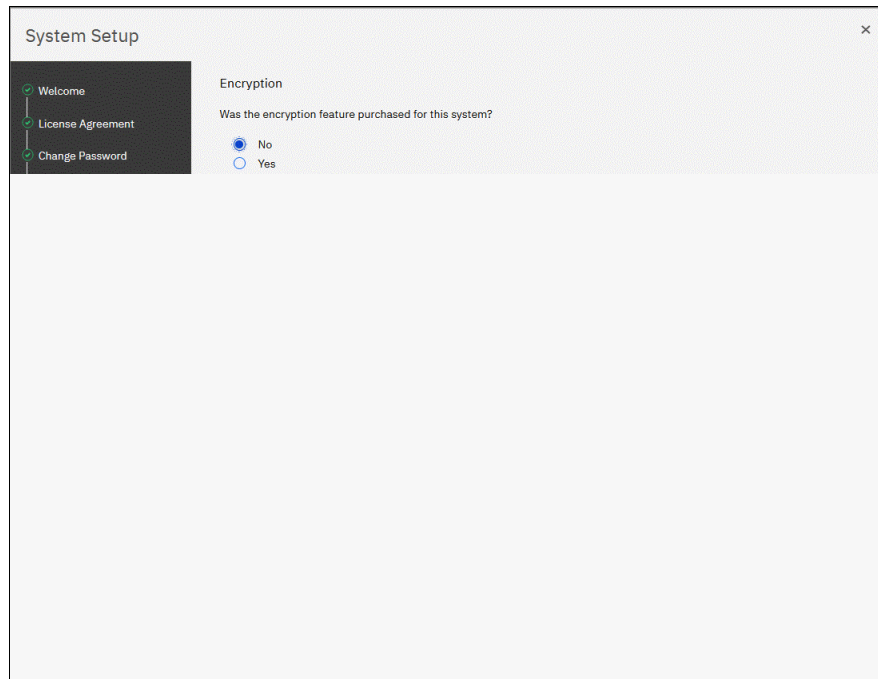

Figure 12-5 Encryption activation during the initial system setup
1. Select **Yes**, as shown in Figure 12-5.